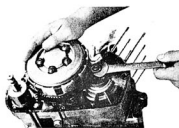

Fig. 4-9-1
- 1) Feed a rolled up rag between the teeth of the primary drive gear and primary driven gear to lock them, and then loosen the lock nut. (Fig. 4-9-1)